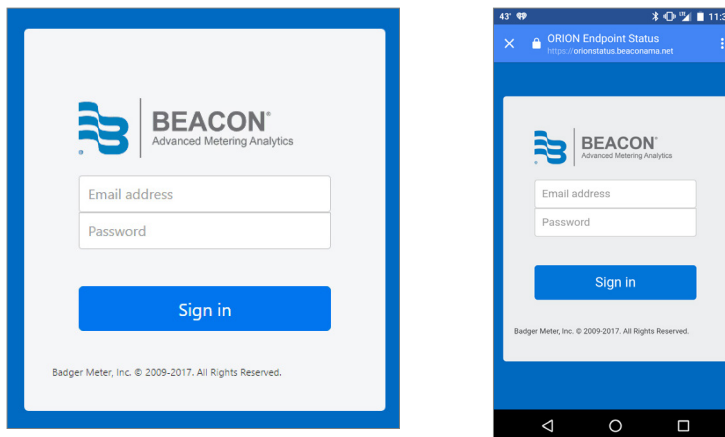

Figure 56: Tool sign in screen - computer and mobile
2. Sign in with your BEACON email address and password (Figure 56).